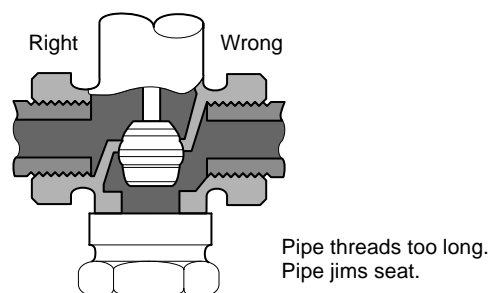
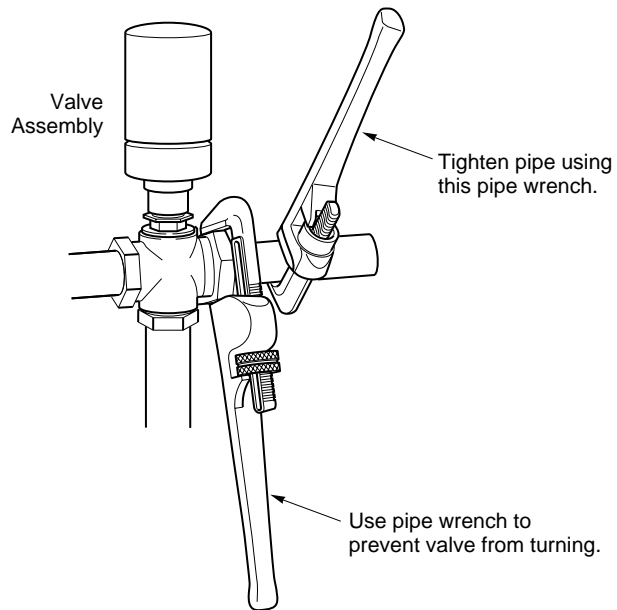

Figure-3 Normal Thread Engagement.
Figure-4 Installation of Screwed End Valves.
3. Use a pipe wrench to fully tighten the valve to the pipe. Do not over tighten or strip threads. See Table-6 and Figure-3 for the normal engagement length of the threads. Figure-4 shows a means of tightening the pipe so that the valve is not twisted or crushed.